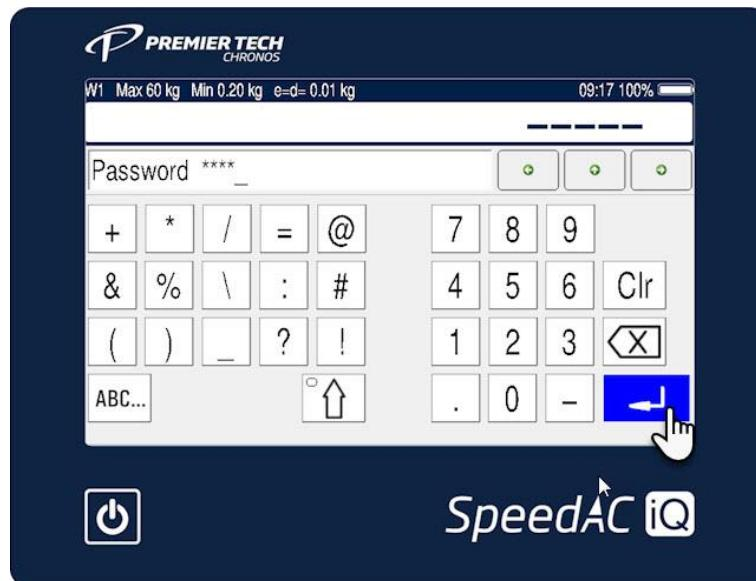

Figure 2: SpeedAC iQ Admin Password Validation Screen
- Use the **Admin** Password to switch to the **Service mode** screen on the SpeedAC iQ Controller (**Figure 2**).